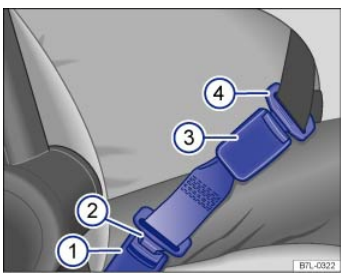

Fig. 34 A safety belt extender properly attached to the factory-installed safety belt.
Key to ⇒ *Fig. 34* :
- Insert the buckle tongue on the safety belt extender ⇒ *Fig. 34*② into the vehicle belt buckle for the seat where the safety belt extender is being used ⇒ *Fig. 34*①.